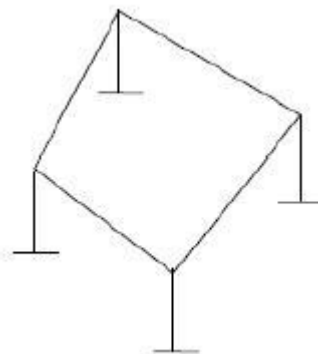

Fig. 2
- j. Find the indeterminacy of space rigid frame as shown in Fig. 2?